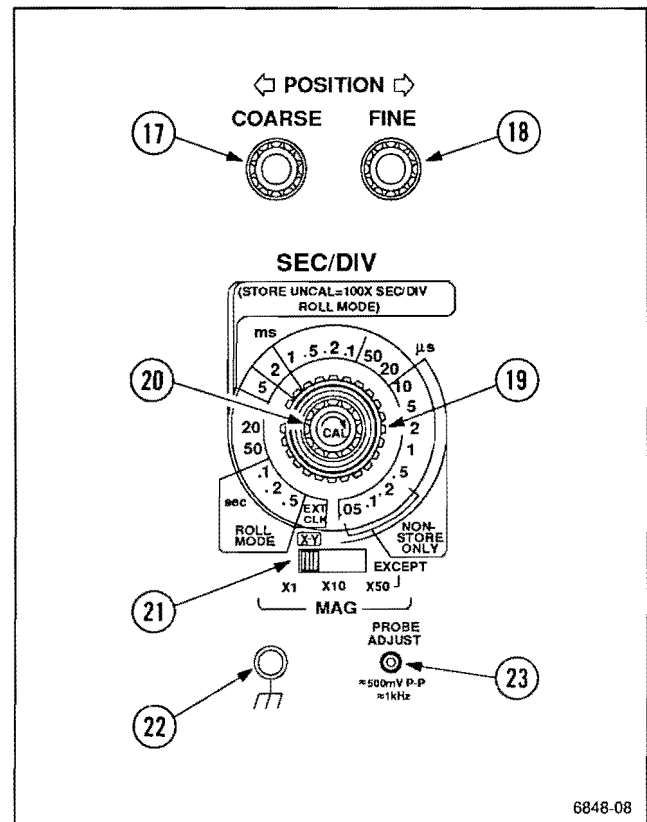

Figure 2-5. Horizontal controls.
See Figure 2-5 for the location of items 17 through 23.